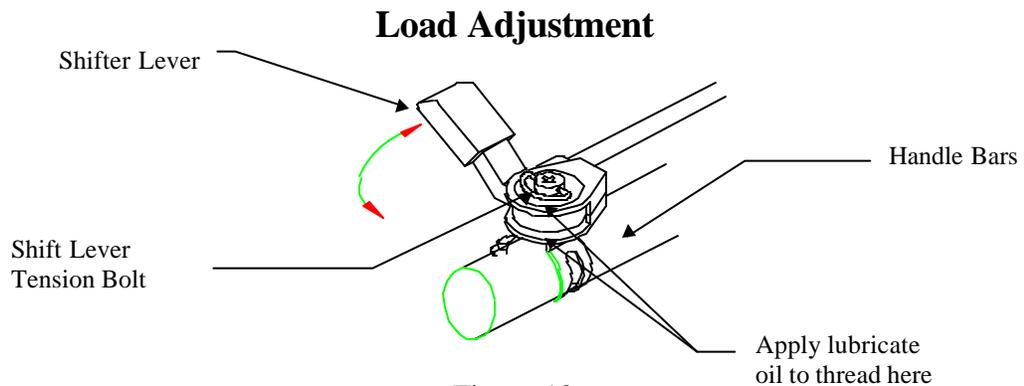

Figure 10
2. Set the shift lever at the full load position (counter clockwise, Figure 10). Gently move the crank arm back and forth being careful not to rotate the flywheel. The movement of the end of the crank arm (at the pedal) should not be more than 1/8 of an inch. If the movement of the arm is greater than 1/8 of an inch the chain may be out of adjustment.
1. Using one hand, clamp two fingers on top and a thumb on the bottom of the shifter assembly unit. Loosen the shift lever tension bolt about  $\frac{1}{8}$  of an inch (Being careful not to allow the small plastic shifting spring inside the Shifting assembly unit to fall out). Lift the shift lever tension bolt, the thread should be visible (Figure 10).
- A friction belt supplies the desired load. This load may be adjusted by simply turning the Shifter Lever located on the handle bars (Figure 10).
2. Set the shift lever at the full load position, counter clockwise (Figure 10), gently move the crank arm back and forth being careful not to rotate the flywheel. The movement of the end of the crank arm (at the pedal) should not be more than **1/8 of an inch**. If the movement of the arm is greater than 1/8 of an inch the chain may be out of adjustment.
2. To tighten the lever, rotate the shift lever tension bolt (see figure 10) clockwise until the desired tension is achieved.